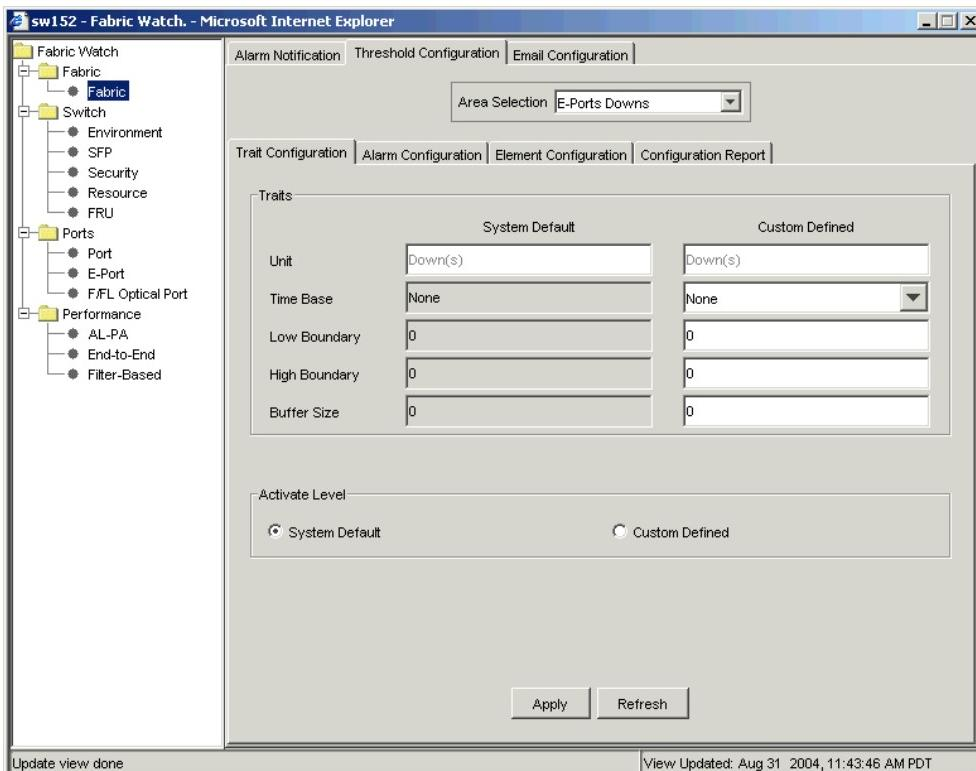

Figure 48 Threshold configuration for Fabric Watch
2. Click the **Threshold Configuration** tab (see Figure 48).